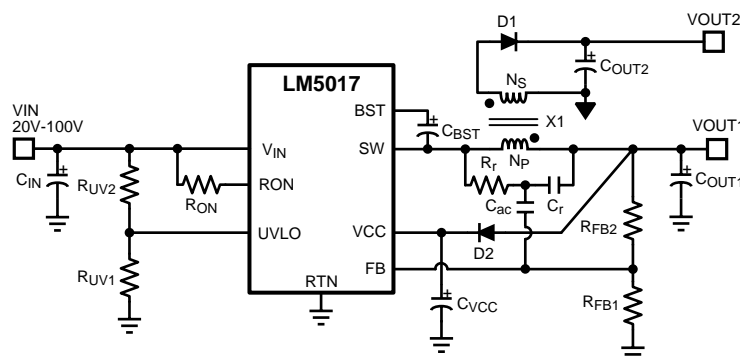

Figure 17. Typical Isolated Application Schematic
An isolated supply using LM5017 is shown in Figure 17 below. Inductor (L) in a typical buck circuit is replaced with a coupled inductor (X1). A diode (D1) is used to rectify the voltage on a secondary output. The nominal voltage at the secondary output ( $V_{OUT2}$ ) is given by: